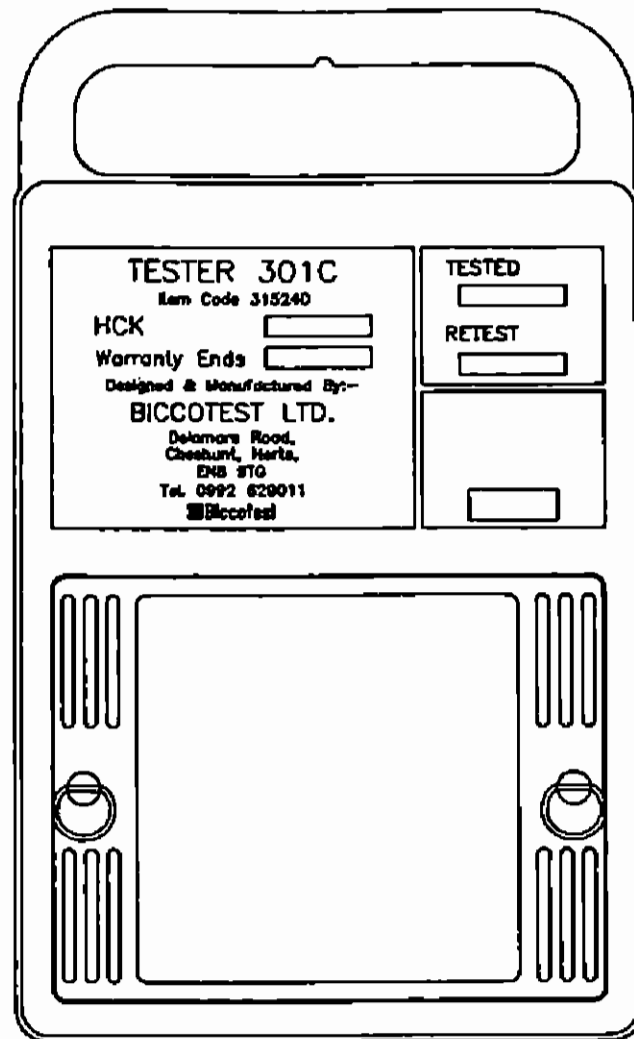

Figure 3 - Rear View
**Figure 3 shows the rear view of Tester 301C.**